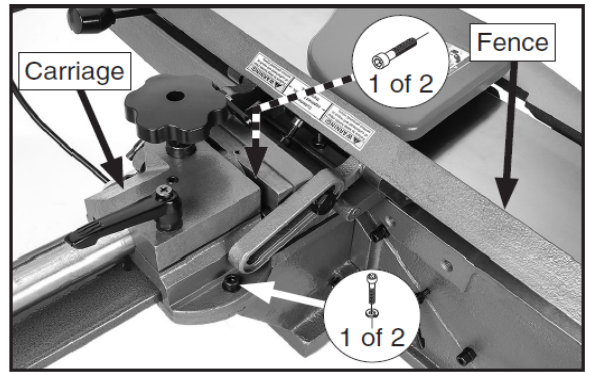

Figure 5
1. Install fence carriage with two pre-installed cap screws and lock washers.(Figure 5)
2. Attach the fence to the fence carriage with two pre-installed cap screws.(Figure 5)